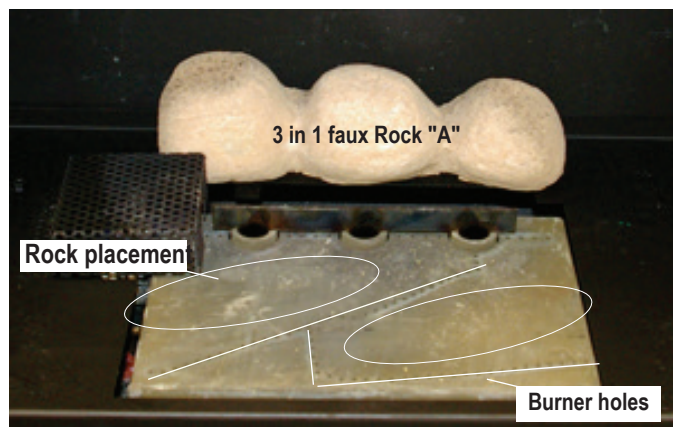
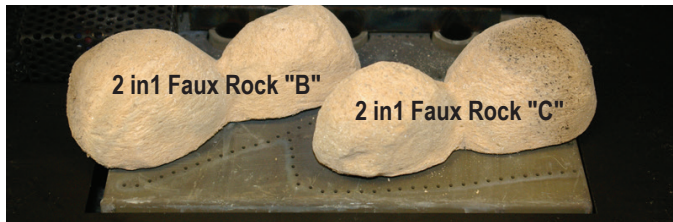

Figure 32b. Placement of faux ceramic rock "A" (flat surfaces of rock against the back and bottom pan of the fireplace). Note decreasing size of rock diameters.
Figure 32c. Placement of faux ceramic rock "B" & "C" . Note decreasing size of rock diameters toward centre of burner.
Step 2. Install Rear faux "A" ceramic 3 in 1 Rock as shown in Figure 32b.
Step 3. Next, Install Centre (2) Two faux "B" and "C" ceramic 2 in 1 Rock as shown in Figure 32c. Note: Ensure the rocks do not cover the Burner holes, (reference lines of burner holes (straight lines) and outline or rocks (ovals) shown above, Figure 32b.)
**Step 4.** Install Front (3) three of the supplied (5) five faux ceramic "D" Rocks as shown in Figure 32b. Note cut surfaces of Rocks.
**Step 5.** Install the last (2) two faux ceramic "D" Rocks as shown in Figure 32c. Note cut surfaces of Rock toward back of firebox.